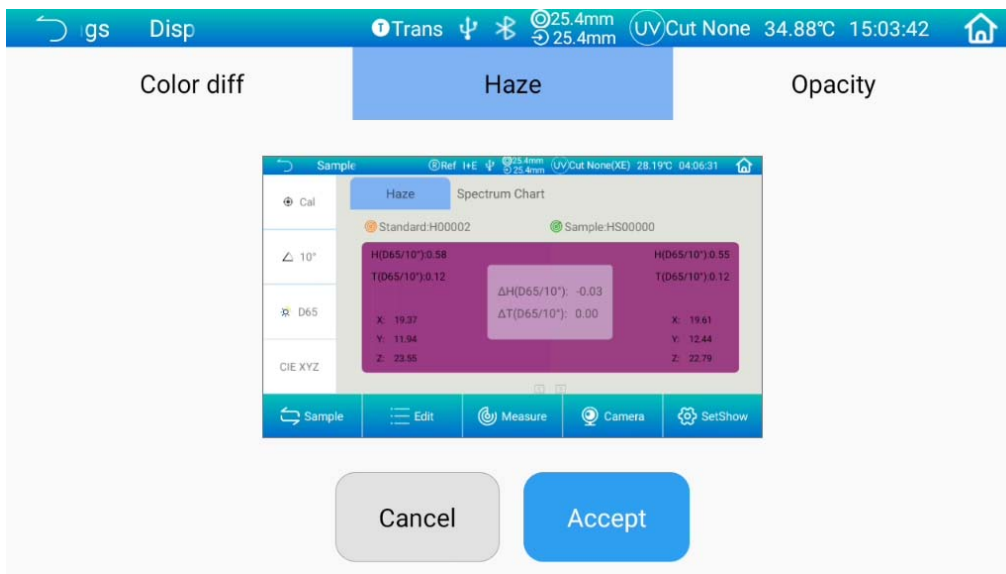

Figure 9 Setting interface
2. After finishing transmission black calibration, enter transmissive white calibration page(Figure 9), take out the black plate, place the white calibration reference according to instruction, ensure it stick to the side of integrating sphere tightly, close the bin cover, and click "White Calibration" to start calibration.